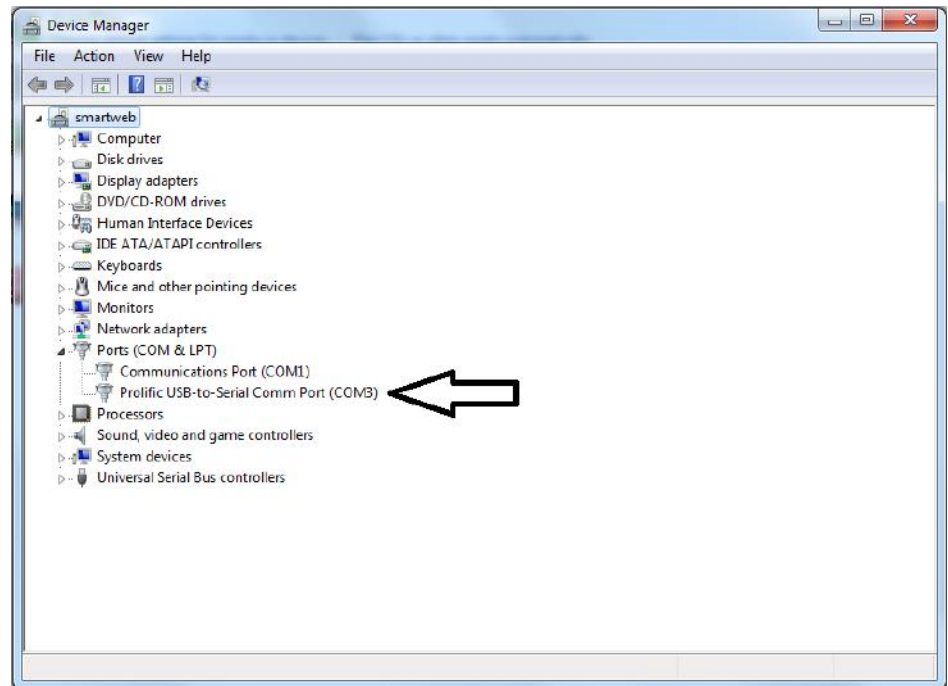

Figure 8-1
3. Use Windows Control Panel / Device Manager to identify the Com port number. **See Figure 8-1 below.**